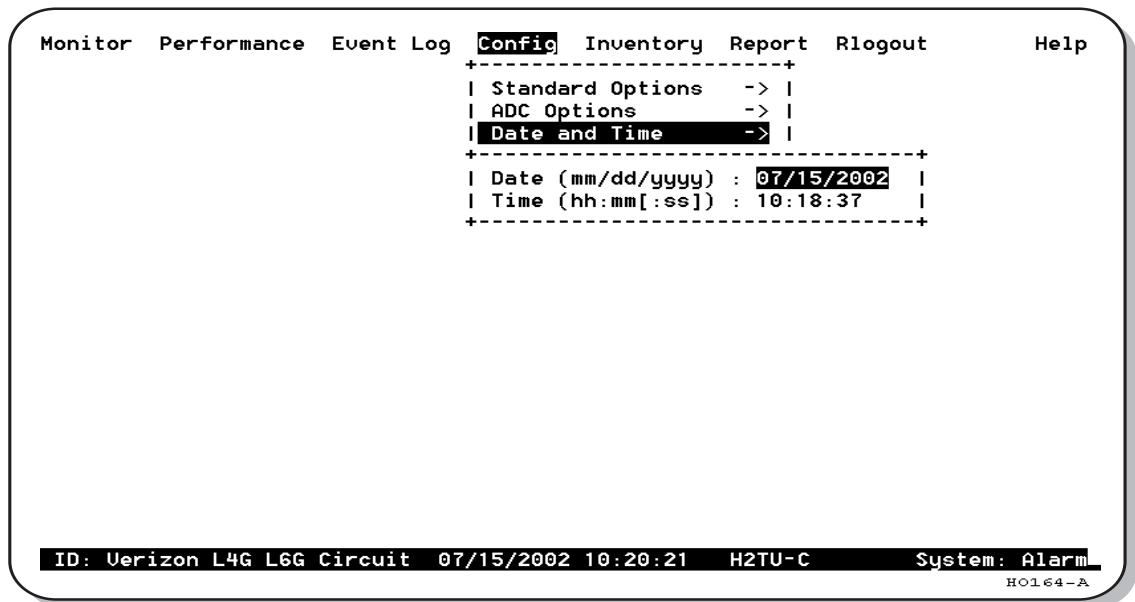

Figure 5. Config Menu - Date and Time
- 2 Type the Circuit ID number in the field indicated (see Figure 5), then press **ENTER**.